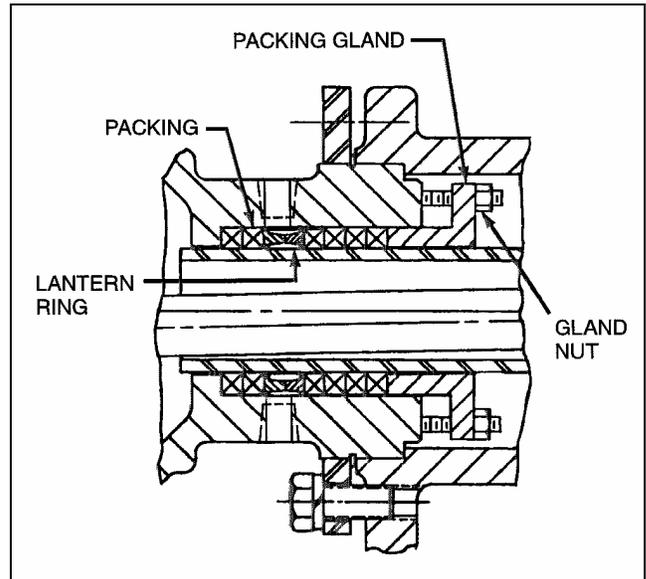

Figure 4-1. Cross Section of Stuffing Box
Packing gland nuts should be evenly adjusted so they are little more than finger tight (See Figure 4-1). Over-tightening of the packing gland may result in premature packing failure and possible damage to the shaft and gland.
6. Replace packing gland (28) and secure with packing gland nuts. (See Figure 4-1.)